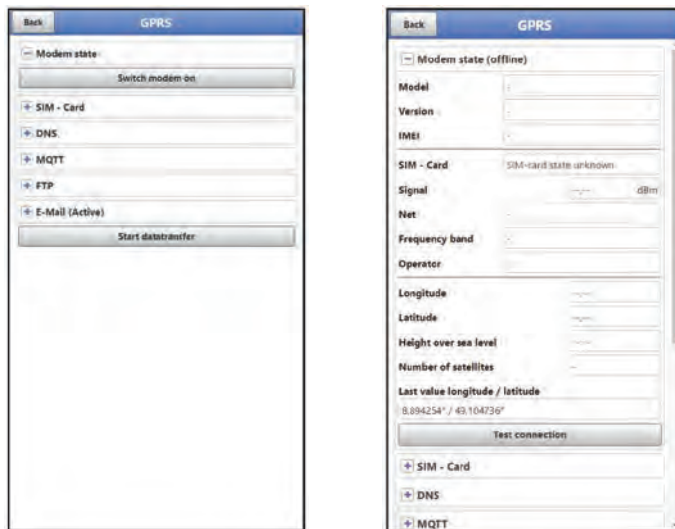

Fig. 42-3 Modem State
2. Wait until the device has searched for the GPS coordinates (latitude/longitude) and these have been entered in the menu (see Fig. 42-3). This may well take a few minutes.